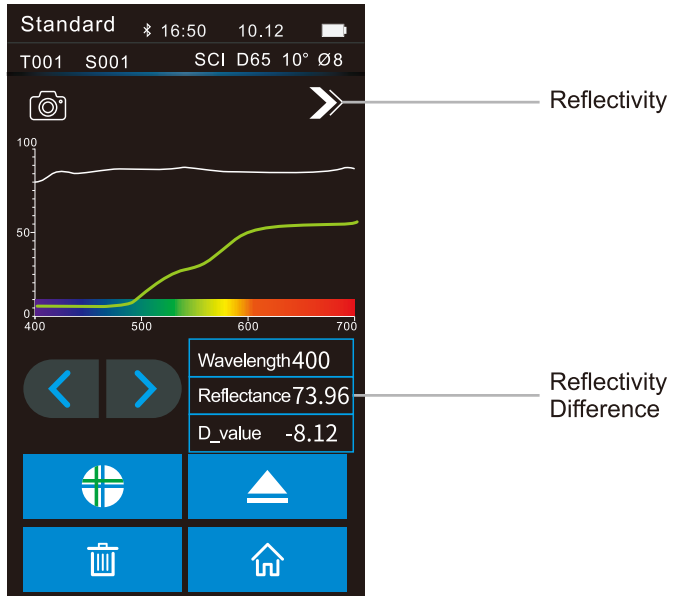

Figure 10 Measured Reflectivity of Sample
7) **Reflectance Difference:** The difference between the measurement sample and the standard under the current reflectivity. As shown in Figure 10, click the button" <> " , and the difference between the light wavelength of the currently measured sample, the reflectivity of the sample and the reflectivity of the sample standard will be switched at intervals of 10nm.